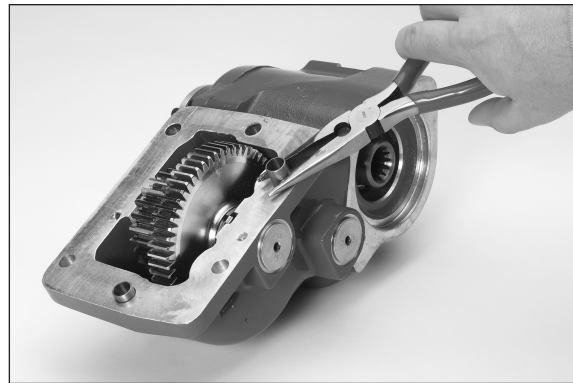

Figure 67
1. There are two split dowels that will act as guides when installing the PTO to the transmission. Gently squeeze the dowel together and install in the top and lower right side mounting hole of the PTO as shown in **Fig. 67**. The dowel should be flush with the side away from the mounting face (**Fig. 67 and Fig. 68**) and protrude into the corresponding mounting holes of the transmission aperture when installing the PTO.